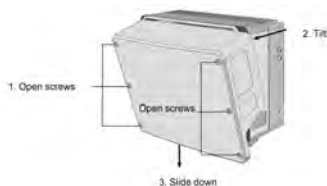

Figure 23: Removing the inverter cover
5. Open the inverter cover (see *Figure 23*).